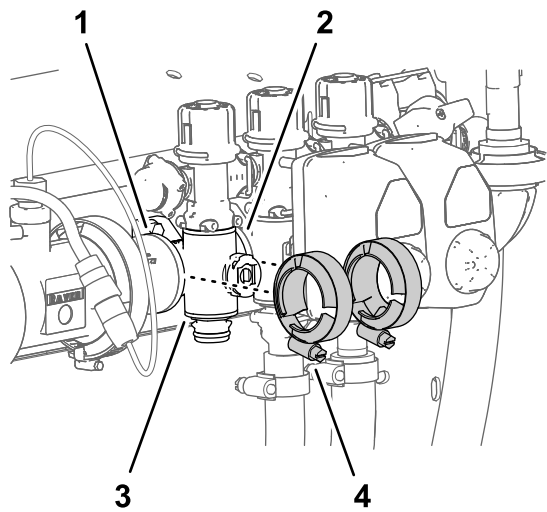

Figure 113
- Remove the 2 flange clamps that secure the section-manifold valve to the flanges of the adjacent components (Figure 113).